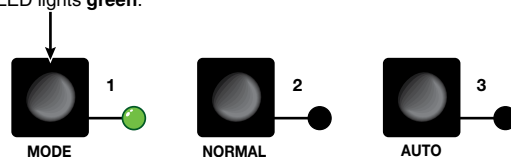

Figure 10. Selecting an Input
1. Select the desired input by pressing the associated input button (see figure 10).